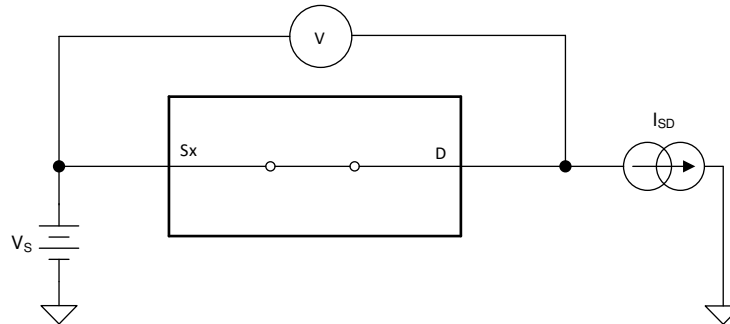

图 16. On-Resistance Measurement Setup
The on-resistance of a device is the ohmic resistance between the source (Sx) and drain (Dx) pins of the device. The on-resistance varies with input voltage and supply voltage. The symbol R_{ON} is used to denote on-resistance. The measurement setup used to measure R_{ON} is shown in 图 16. Voltage (V) and current (I_{SD}) are measured using this setup, and R_{ON} is computed with $R_{ON} = V / I_{SD}$: